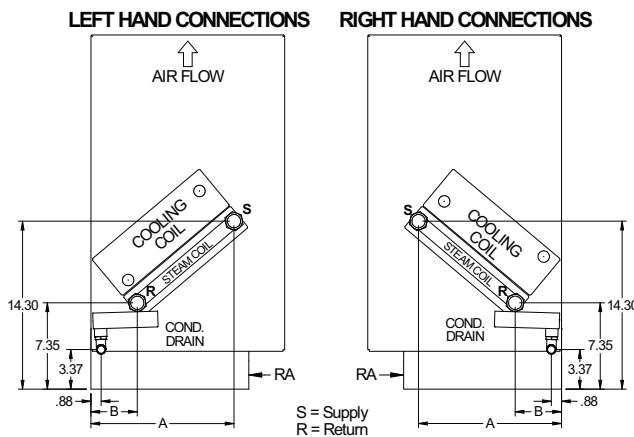

Fig. 26 — Steam Heating Coil Only or Chilled Water/DX Cooling Coil With Steam Pre-Heat Coil (No Piping Package)
- For Hot Water Pre-Heat piping location see Fig. 12. For Steam Pre-Heat piping location see Fig. 26.